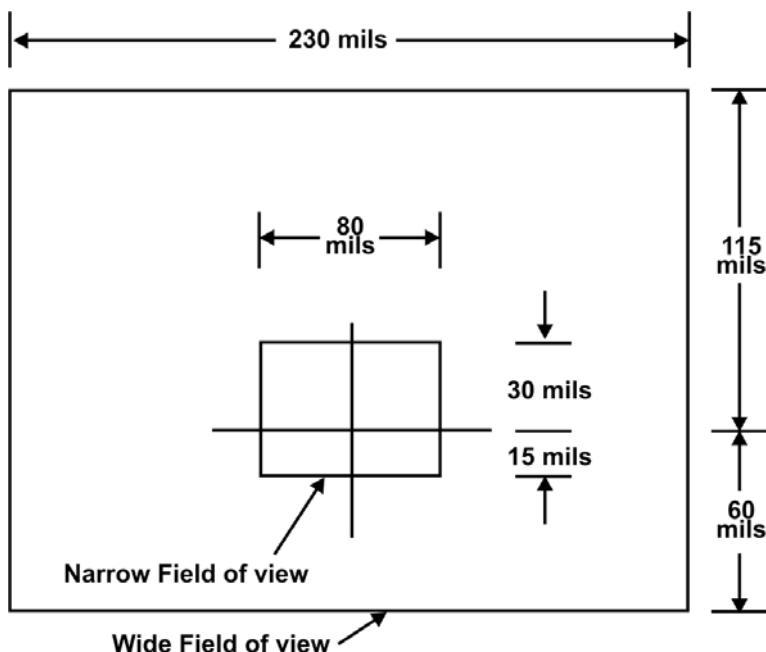

Figure 1-1: Fields of View
5. **Localization.** The Eryx weapon system uses two charge-couple device (CCD) cameras to locate or localize the missile once in flight. The weapon initially scans for the beacon using the wide field of view camera. Once the weapon gains control of the missile and brings it close enough to the line of sight, it toggles to the narrow field of view camera to minimize the possibility of enemy jamming (see Figure 1-1).